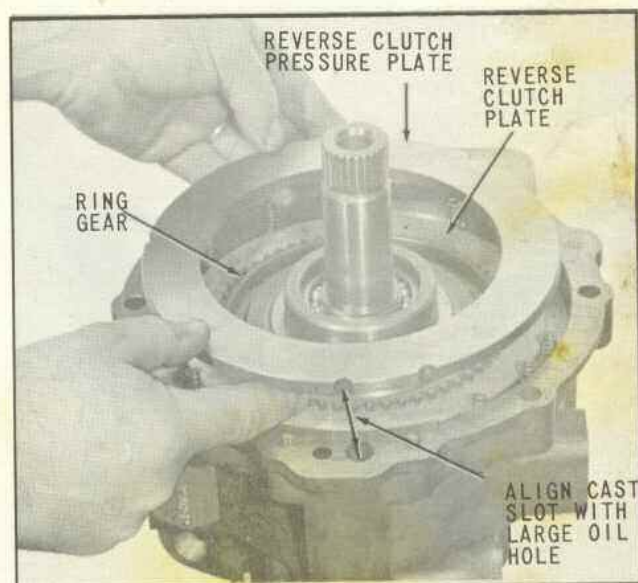

Fig. 55 Installing Reverse Clutch Pressure Plate
47. Install reverse clutch plate over exposed splined teeth of ring gear. Clutch plate must be firmly and evenly seated on the case face forming the rear of the reverse clutch cavity, (Fig. 55).
48. Install the reverse clutch pressure plate with the twelve (12) holes in the downward position. Align the cast slot in the pressure plate with the large oil hole in the front face of the transmission case, (Fig. 55). Since the twelve (12) pressure plate springs are not evenly spaced, the slot and oil hole alignment are